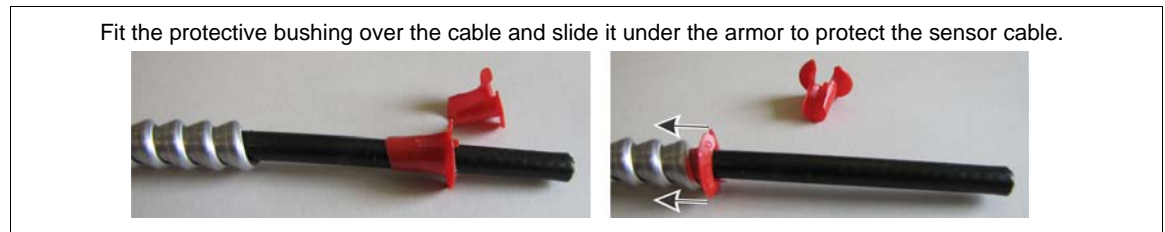

Figure 55: Using the supplied bushings to protect FlexZone sensor cable
9. Insert the protective grommet under the armor (see Figure 55:).